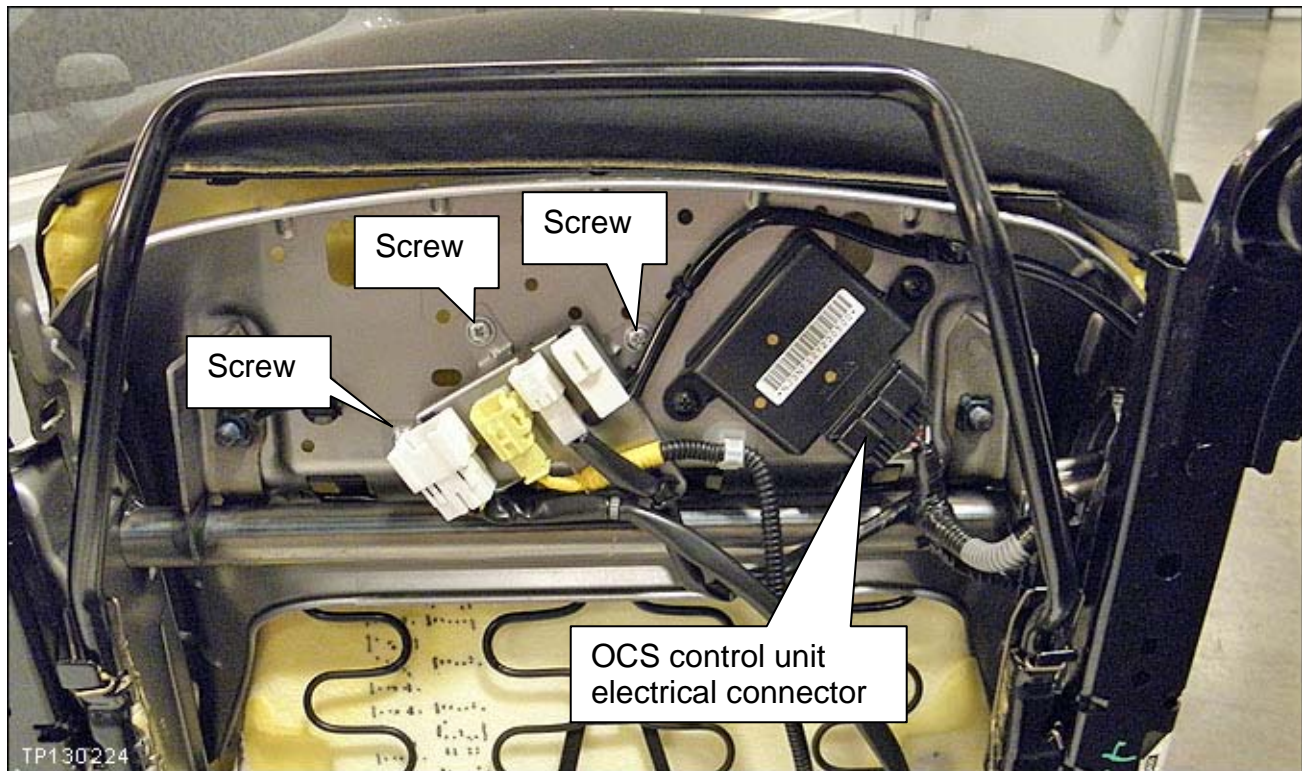

Figure 8
10. Remove the 3 screws shown in Figure 8.
11. Disconnect the electrical connector from the OCS control unit (see Figure 8).